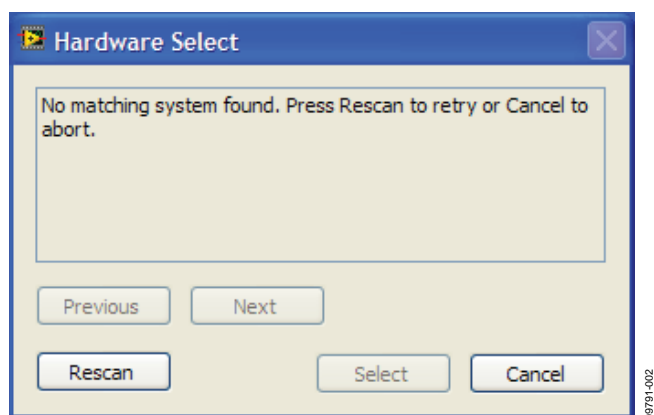

Figure 3. Pop-Up Window Error
2. If the SDP board is not connected to the USB port when the software is launched, a connectivity error displays (see Figure 3). Simply connect the evaluation board to the USB port of the PC, wait a few seconds, click **Rescan**, and follow the instructions.